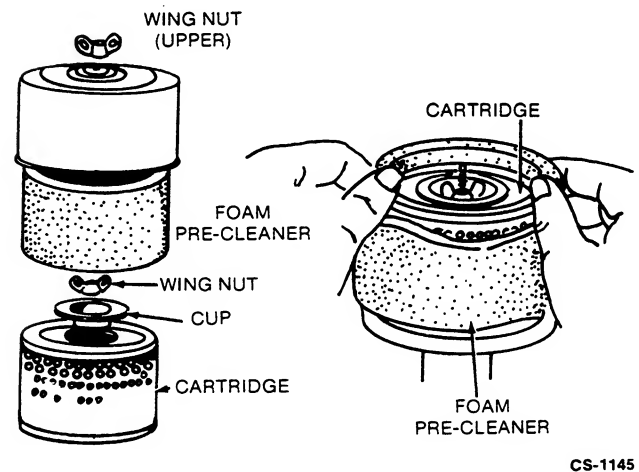

FIGURE 12. DUAL ELEMENT AIR CLEANER
1. Remove wing nut and cover (See Figure 12).